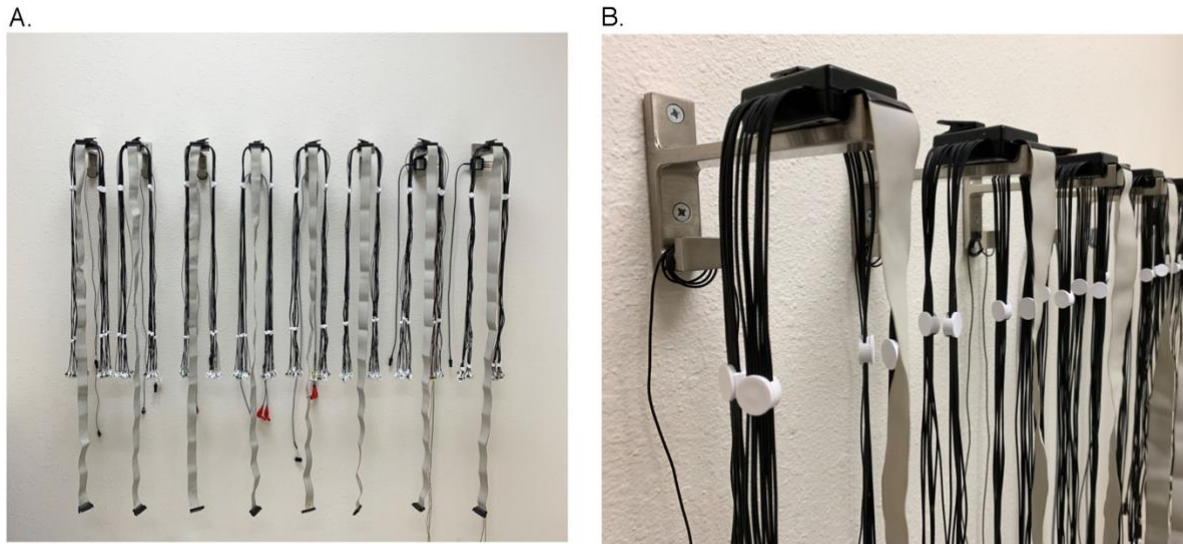

Figure 9. Example of properly stored electrodes, as viewed from the front (panel A) and the side (panel B).
10. Hang the electrodes on the top arm of a wall hook with the clip facing up, the flat part of the splitter box facing down, and the ribbon cable pointing away from the wall. They should balance perfectly this way, with electrodes 1-16 hanging to the left and electrodes 17-32 hanging to the right. Hang the Ground electrode over the bottom arm of the hook (see Figure 9).